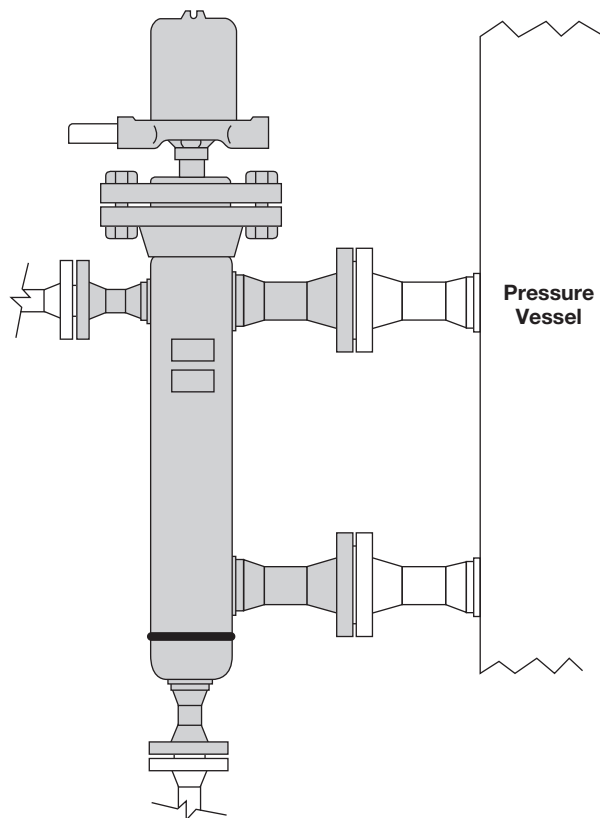

Figure 3
Figure 3 shows a typical piping installation of a Series 55 control to a pressure vessel. Level decals identify the actuation levels for the unit at minimum specific gravity.
- 4b. Close shut-off valves (if so equipped) to isolate control from tank. Drain off liquid in float chamber. Refer to Figure 3.